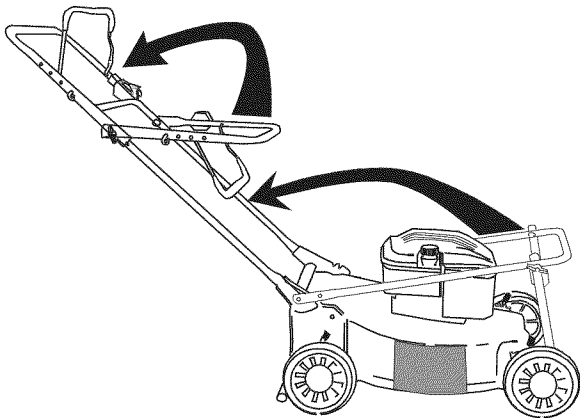

Figure 1
- Pull up and back on the upper handle to raise the handle into the operating position. Make certain the lower handle is seated securely into the handle mounting brackets. Tighten the large wing nuts on each side of the handle. See Figure 1.